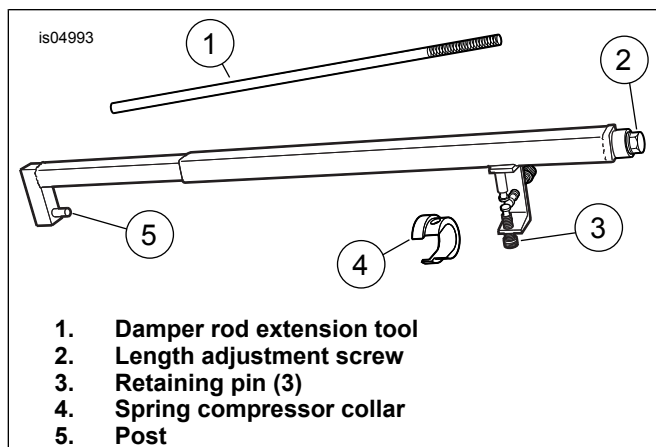
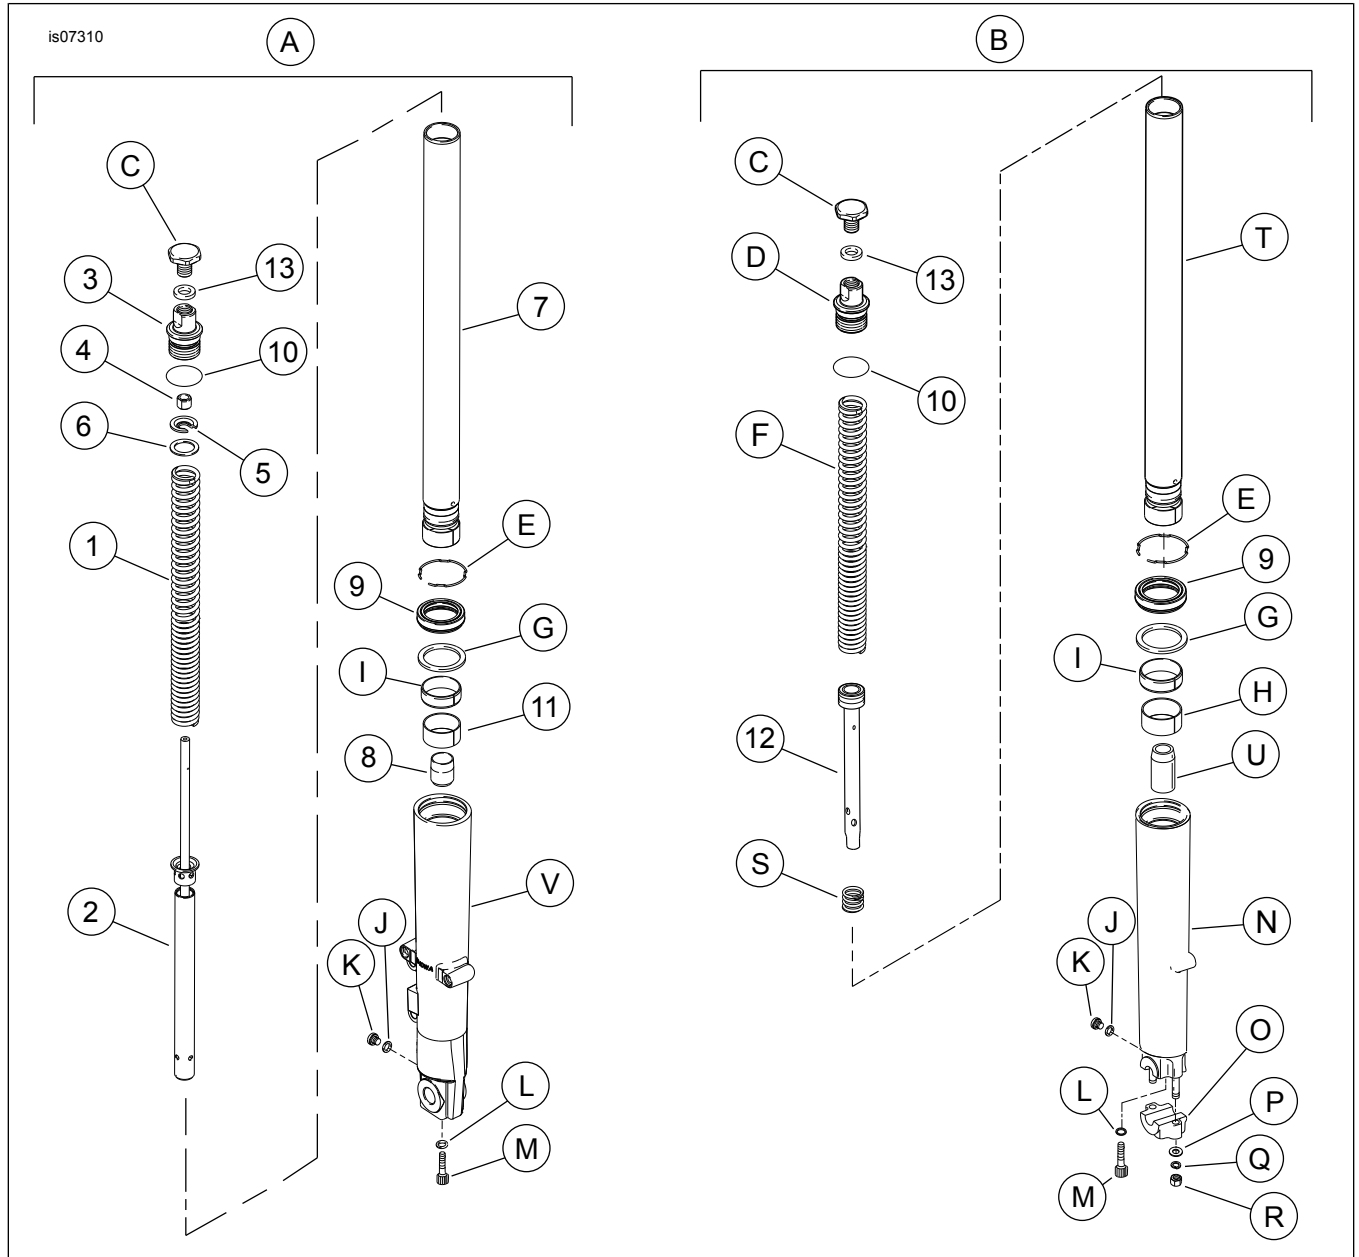

Figure 6. Fork Spring Compressing Tool (HD-45966)
Figure 9. Service Parts: Softtail Cartridge Front Fork Kit
1. See Figure 9, Section A. If not already installed, coat **new** fork tube bushing (11) ID with clean fork oil. Expand fork tube bushing at split line only as far as required to slip over end and into groove of fork tube (7).
2. Install fork slider (V) in fork tube holder. Slide fork tube (7) into fork slider.
3. Coat slider bushing (I) ID with clean fork oil. Slide slider bushing down fork tube (either direction).
4. Slide slider washer (G) down fork tube until it contacts slider bushing (either direction).
5. Coat the **new** fork oil seal (9) ID with clean fork oil. With the lettering side facing up, slide fork oil seal down the fork tube until it contacts the slider washer.
19. See Figure 6. Install fork spring compressing tool as follows:
- Clamp tool in vise in a vertical position with length adjustment screw (2) upward.
- Place hole at bottom of fork slider over post (5) at bottom end of tool.
- Place flat washer (Item 6, Figure 9), over the damper rod extension tool and on top of spring. Place spring seat (Item 5, Figure 9), concave side up, on top of the flat washer. With the smaller OD upward, place spring compressor collar (item 4, Figure 6) over spring seat and flat washer.
- Adjust tool as necessary until three retaining pins (3) engage blind holes in spring compressor collar (4). Turn length adjustment screw counterclockwise to lengthen and clockwise to shorten.
22. Install **new** jam nut (4) with non-threaded end over the damper rod first. Thread onto damper rod until it bottoms out on the shoulder.
25. Install **new** O-ring (10) onto fork tube plug (3). Thread fork tube plug onto threaded end of damper rod until it bottoms. Turn jam nut counterclockwise until it makes firm contact with the fork tube plug. Tighten jam nut to 18–27 N·m (13–20 ft-lbs).